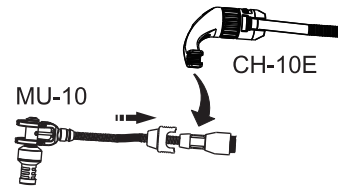

Fig. 12-1
- (A) Assemble the microphone with the holder, Fig. 12-1.